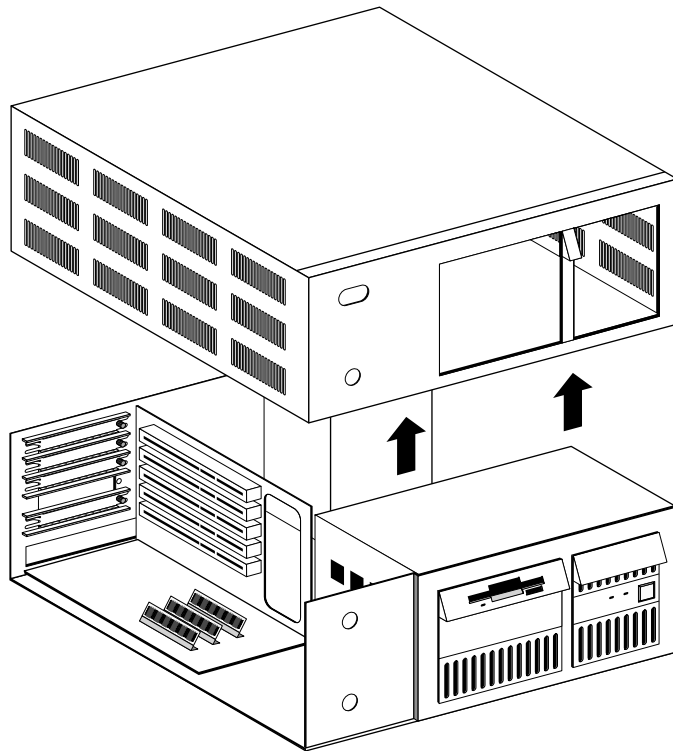

Figure 1-1. Removing the Cover
1. **Remove the computer's cover and choose an empty 16- or 32-bit expansion slot, as shown in Figure 1-1.**